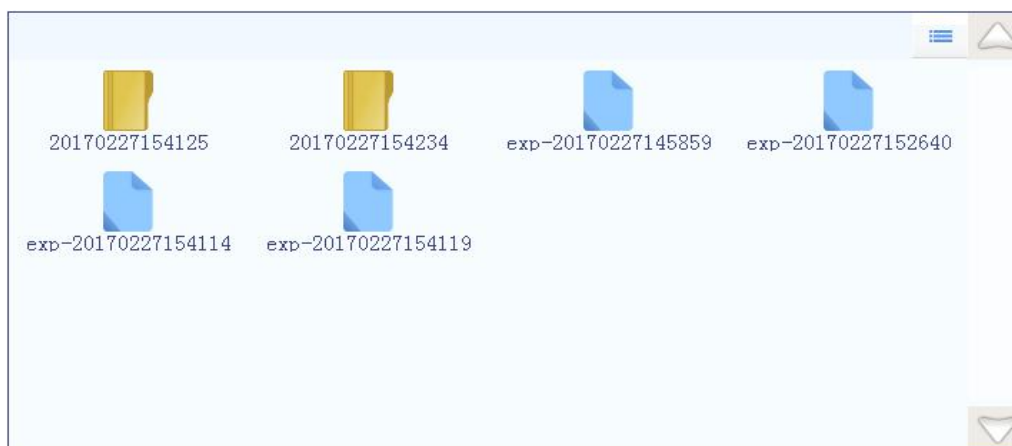

Figure E-2.1 Experiment File tab - Experiment file display area
1. **Experiment File Displaying Area:** display the pre-existed experiment files or file folders within the instrument system, as shown in figure E-2.1.